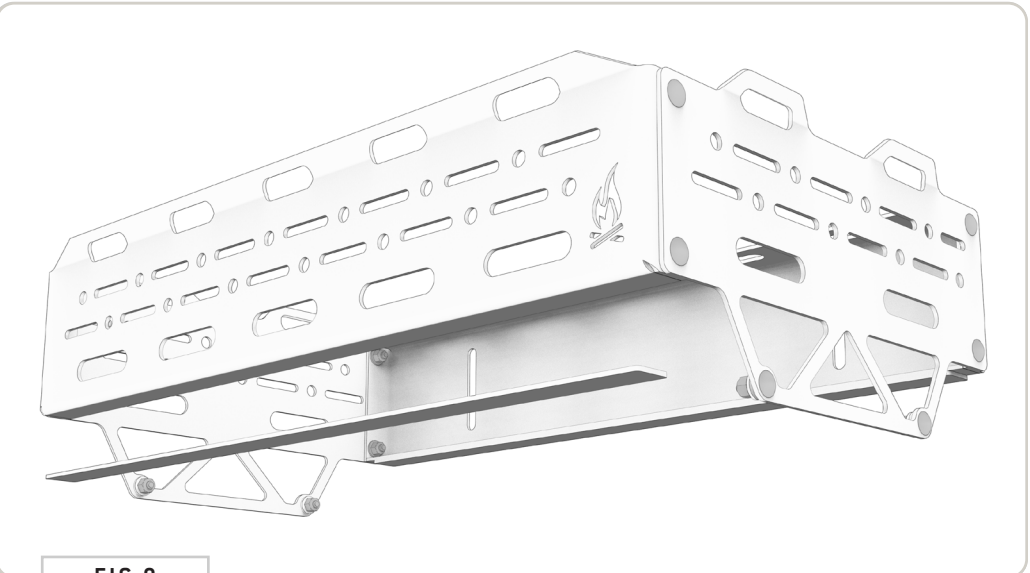

FIG 8
2.4 Attach Foam Gaskets: The Rear Storage Box Topper Panels may or may not have foam gaskets pre-installed. Attach the included **Foam Gaskets** to the bottom of the **Front and Rear Panels** to avoid rubbing (FIG 8).